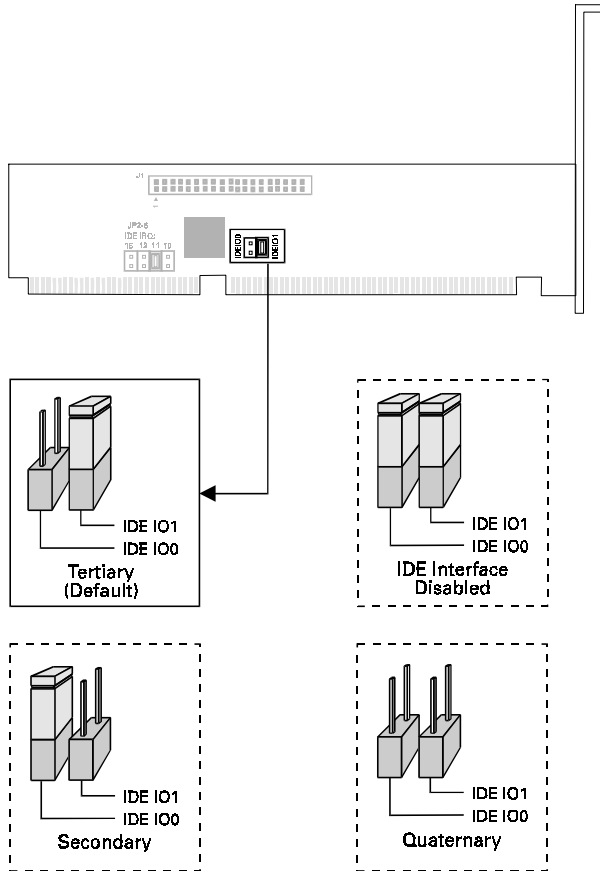

Figure B-1: IDE Port settings for the IDE CD-ROM Interface.
- Place the jumper block on the interface card to select the desired base I/O address as shown in Figure B-1 . A jumper block is a removable plastic hood that fits over a pair of pins.